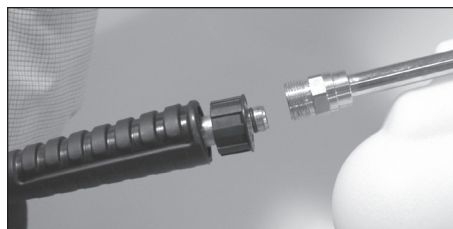

Figure 7– Attach lance to gun
- Attach the lance with nozzle to the gun (see Figure 7).